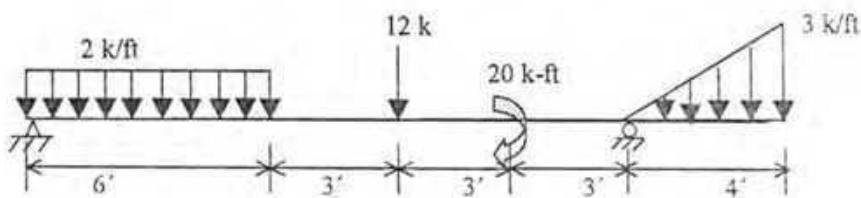

Fig.3
Q3. Using singularity function, derive equations of shear force and bending moment of each region for the beam as loaded in Fig. 3. (10)